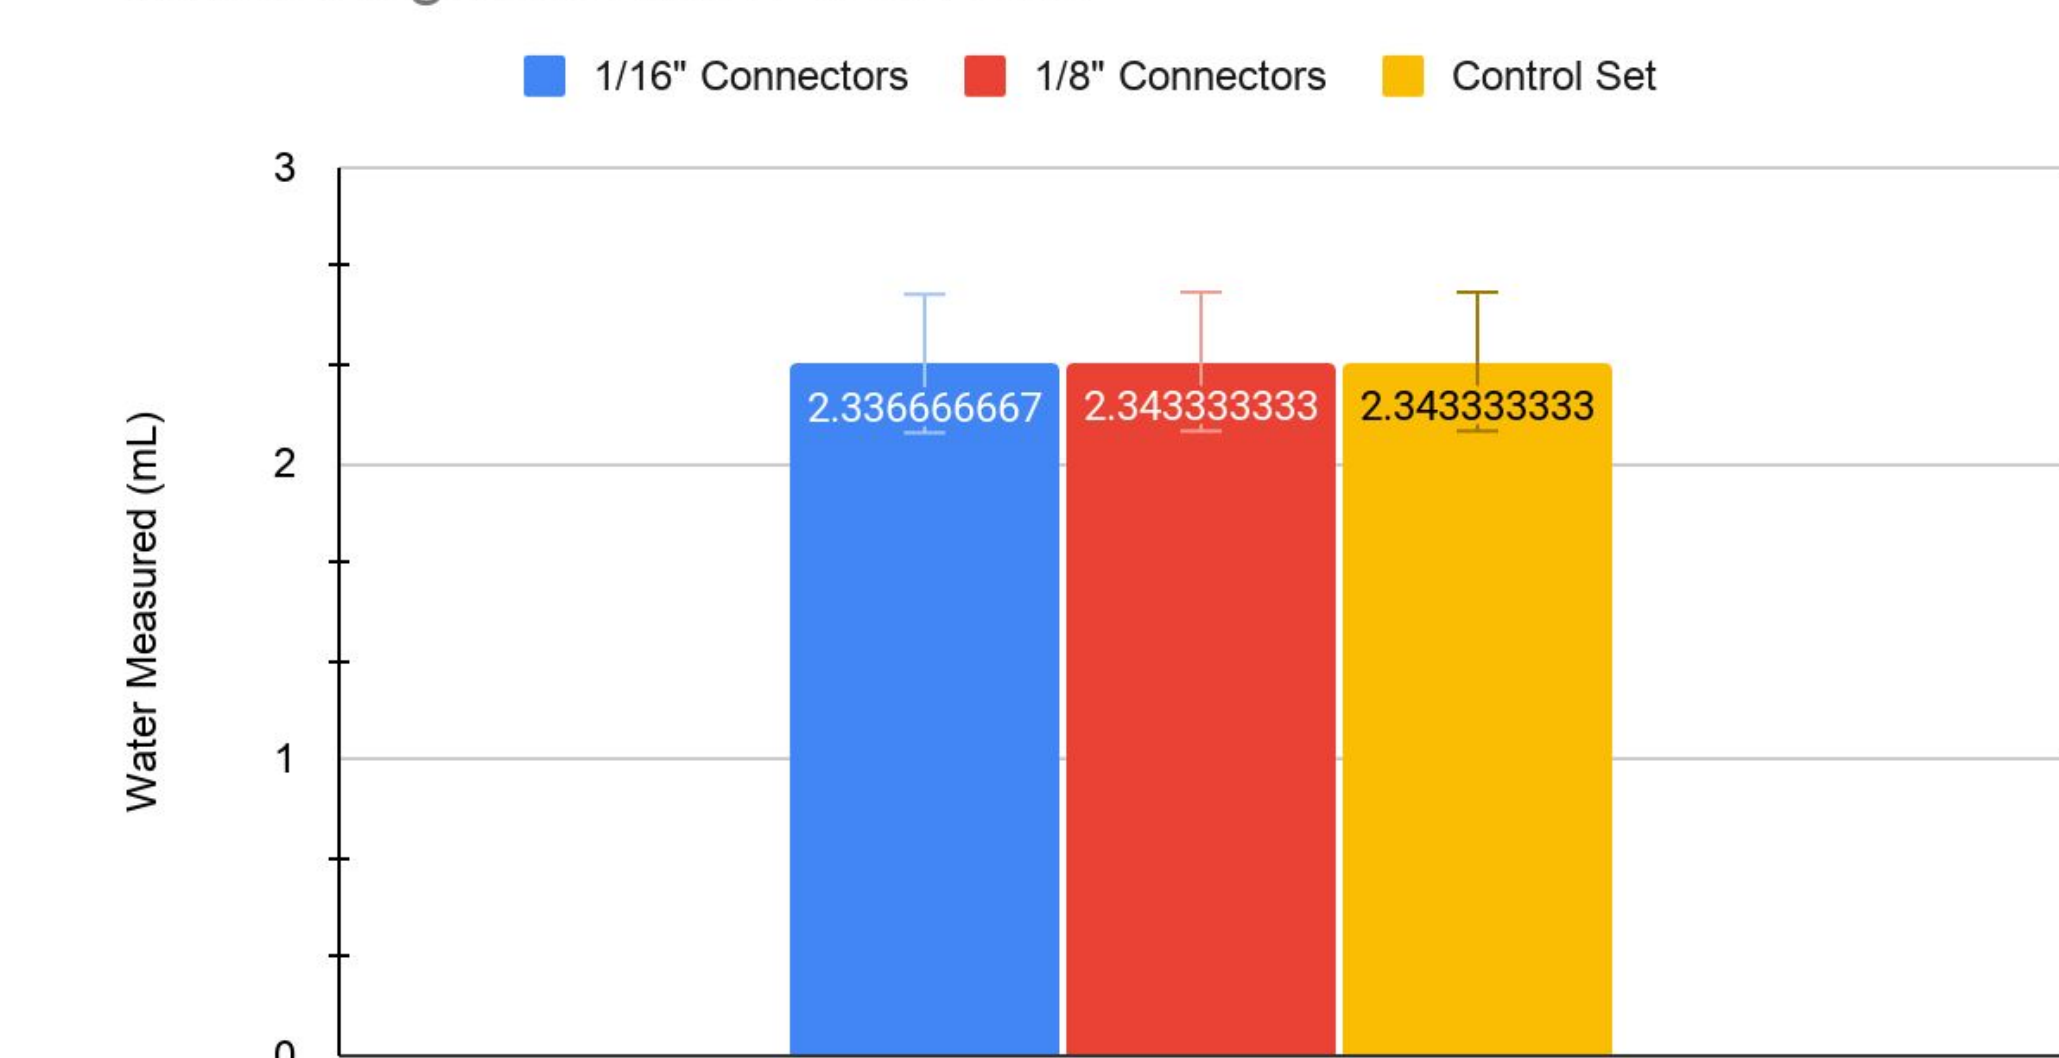

Figure 9: Graph of water recovered from tubing (loaded with 2.5mL). Results were not significantly different (ANOVA p = 0.88)
- Loss of water was caused by the droplets that accumulate on the inside of the tubing that are difficult to remove (results in Figure 9)